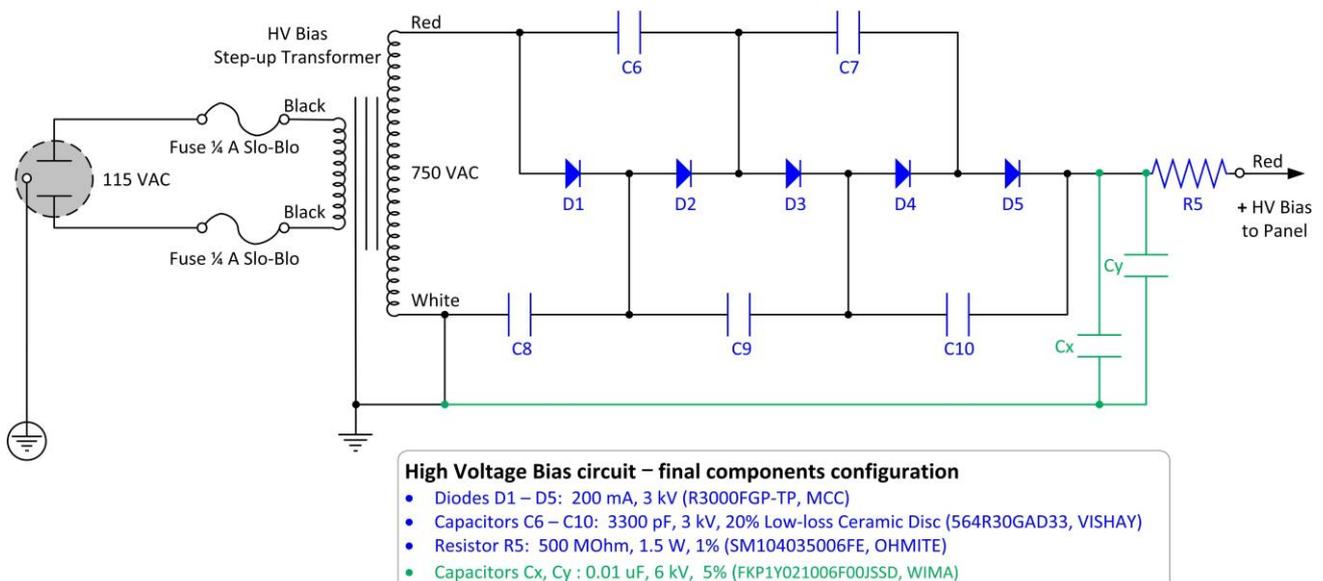

Figure 8. Step-3, high-voltage polypropylene capacitors added to high-voltage ladder (new components coloured in green).
- Based on the sonic improvement from the addition of this capacitor, I decided to add a second 0.01 uF, 6 kV WIMA polypropylene capacitor to the output of the capacitor-diode ladder (Fig. 8).